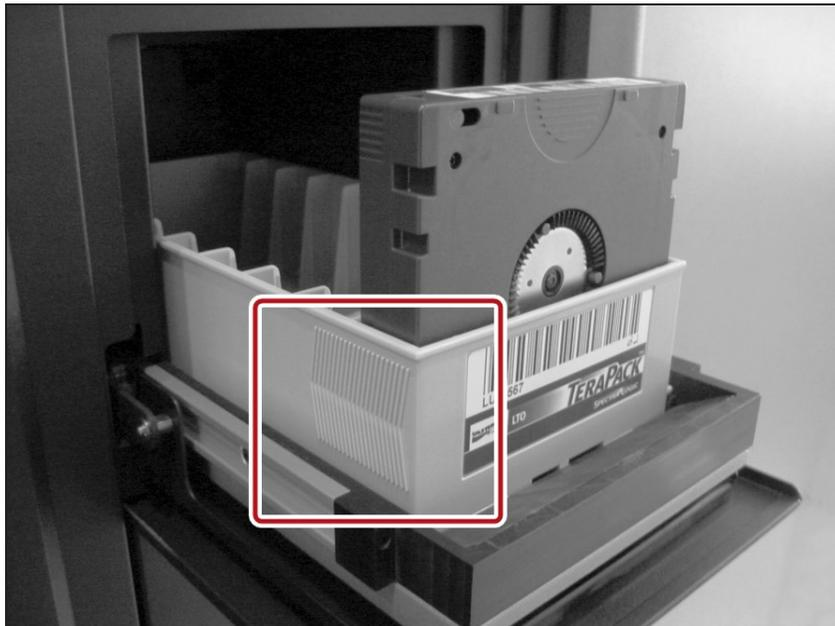

Figure 254 Insert a magazine into the TAP, making sure that it is correctly oriented.
3. Insert a magazine into the tray on the open TAP, making sure that it is oriented with the textured surface on each side toward the outside of the library, as shown in Figure 254 on page 337.